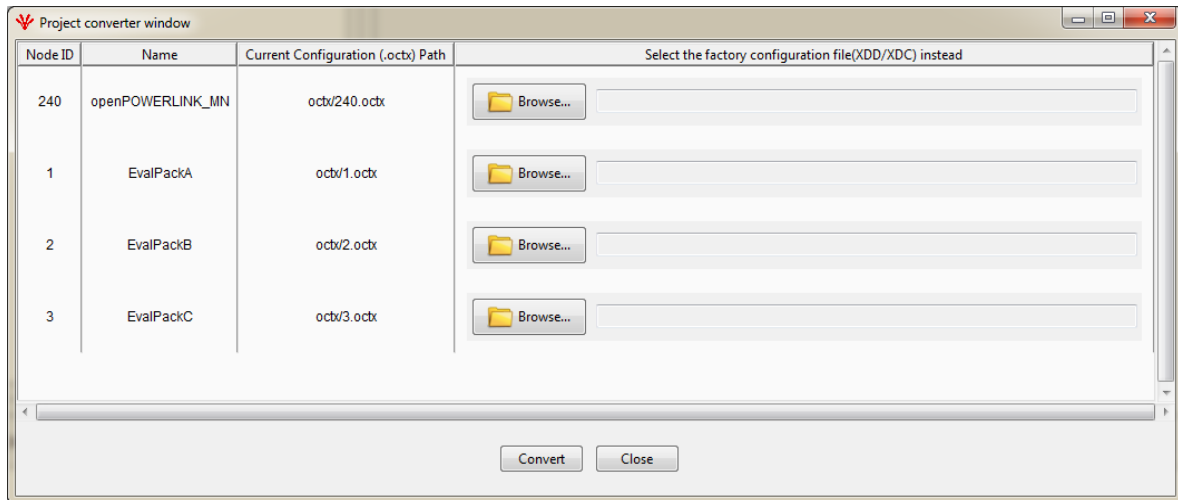

Figure 4: Project converter window
- 1) Once the old project is opened from openCONFIGURATOR 1.4.0 or later, a ‘Project converter window’ will open as shown in Figure 4: Project converter window.